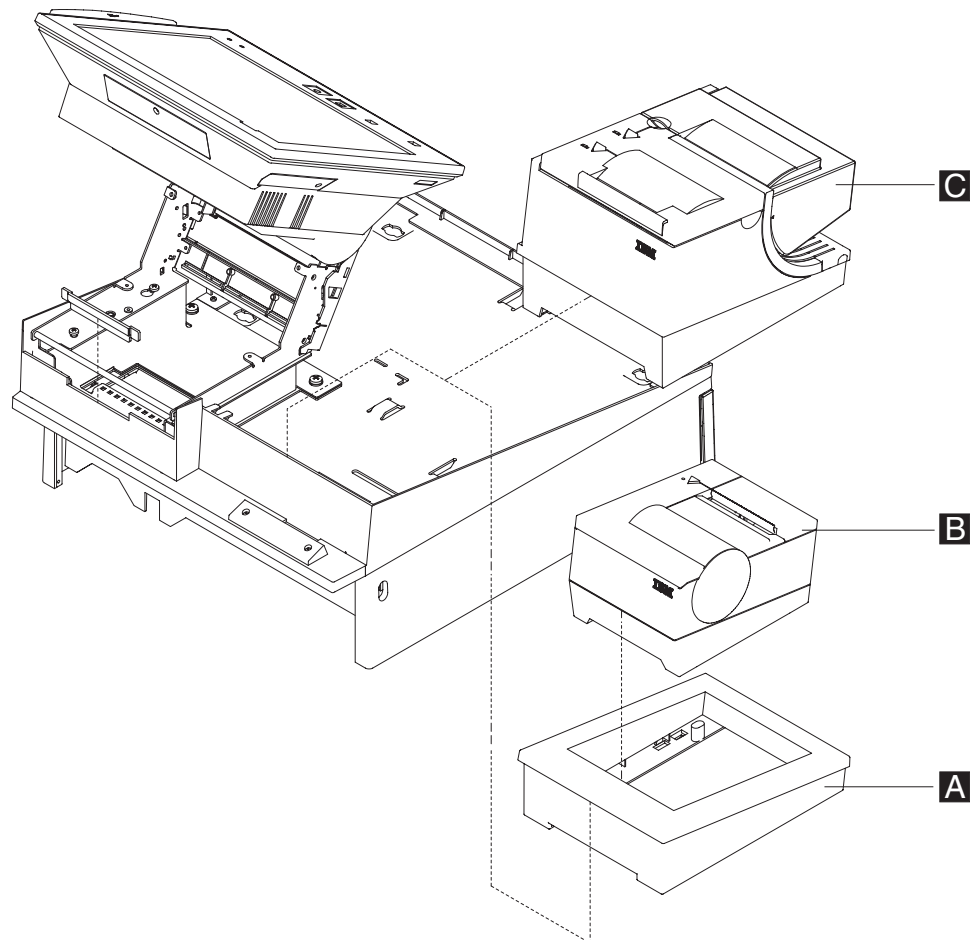

Figure 106. Installing the 4610 SureMark printer on the keyboard integration tray
- c. For the 4610 SureMark TF6 or TF7 printer on a **keyboard integration tray**, lift the printer up and off the printer base. See Figure 106 on page 126 for details.